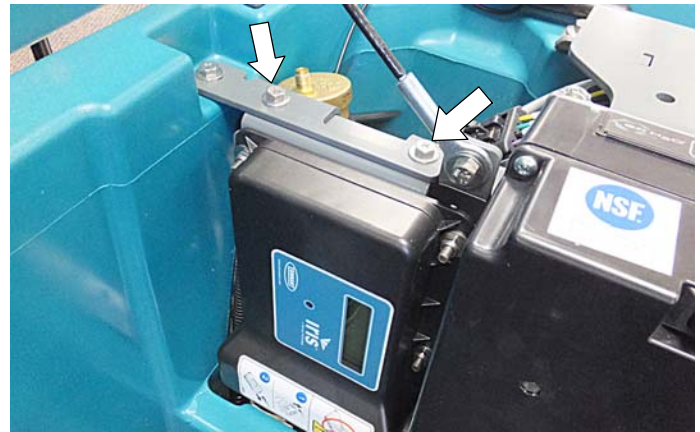

Fig. 15
11. Using two sems screws [1034731], mount the IRIS module to the machine bracket as shown (Figure 15).